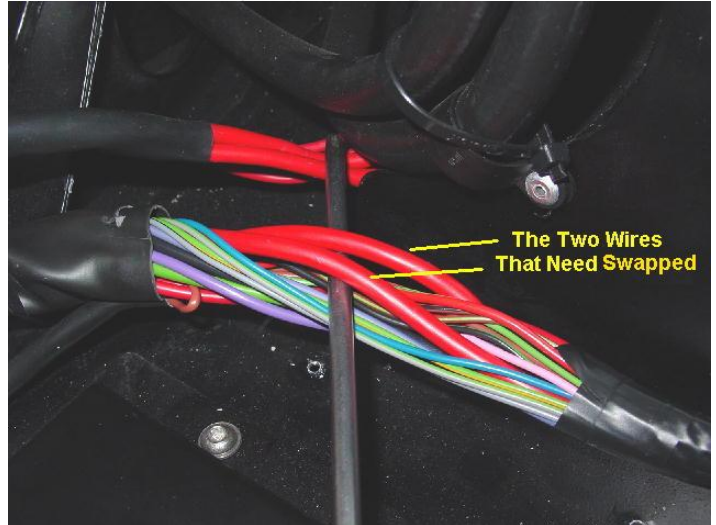
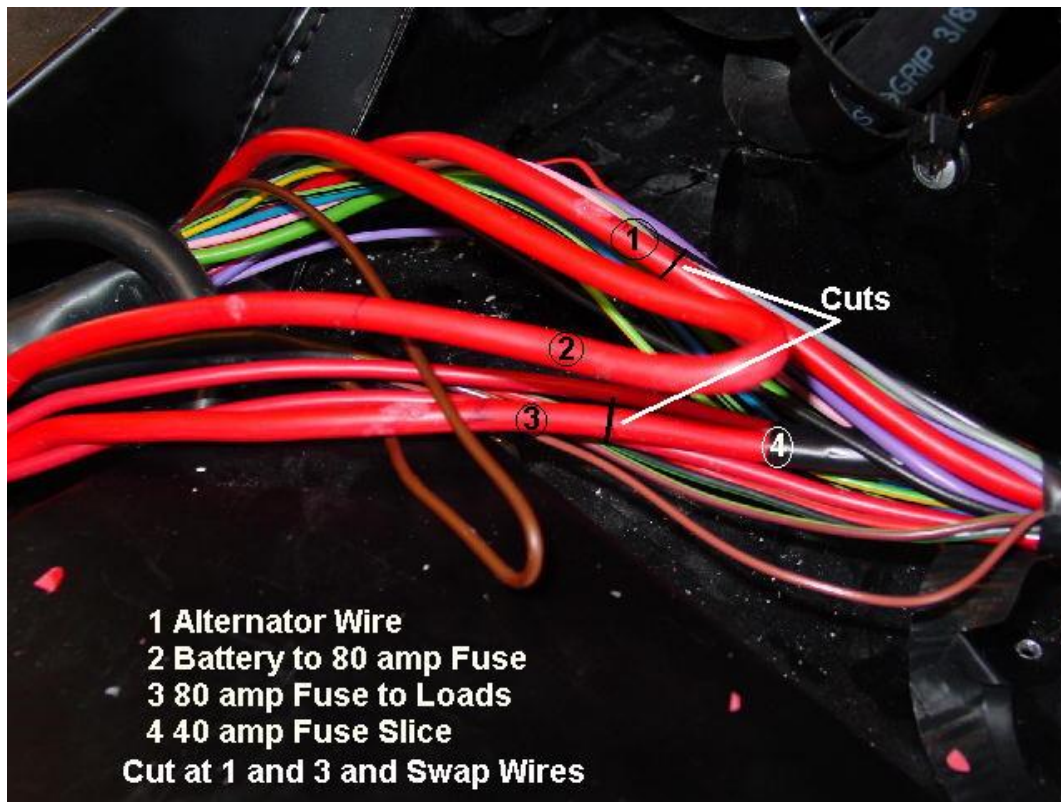

Fig.5 8.0 mm Wires to Be Swapped
Fig. 6 Wire Identification
4. Locate the two heavy gauge (8.0mm) red wires in the harness. (Fig.5) You may find a looped red wire the same gauge. (See figure 6 for more details of this harness) One of these wires will be the alternator wire and one will be the battery wire from the 80 amp maxi fuse. The looped wire is from the battery to the 80-amp maxi fuse, you do not want this one.
Figure 6 and 7 identifies each of the 8.0 mm wires and their function.
7. Using the identification in figure 6 and 7 locate wire number 1 and 3 and mark them to be cut close to each other. On wire 3 make sure you are on the side of the #4 splice as indicated.